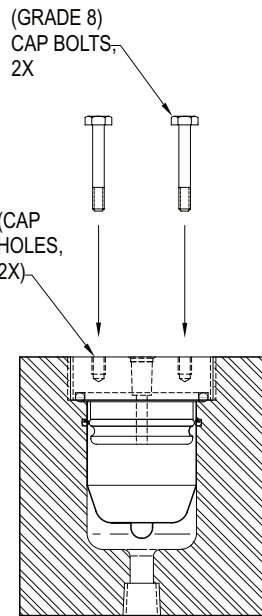

FIGURE 3
4. Insert two 3" long 5/16-18 threaded grade 8 bolts into the two cap holes provided (see FIGURE 3).
5. Reinstall the grade 8 cap bolts (2x) if previously removed (see FIGURE 3).